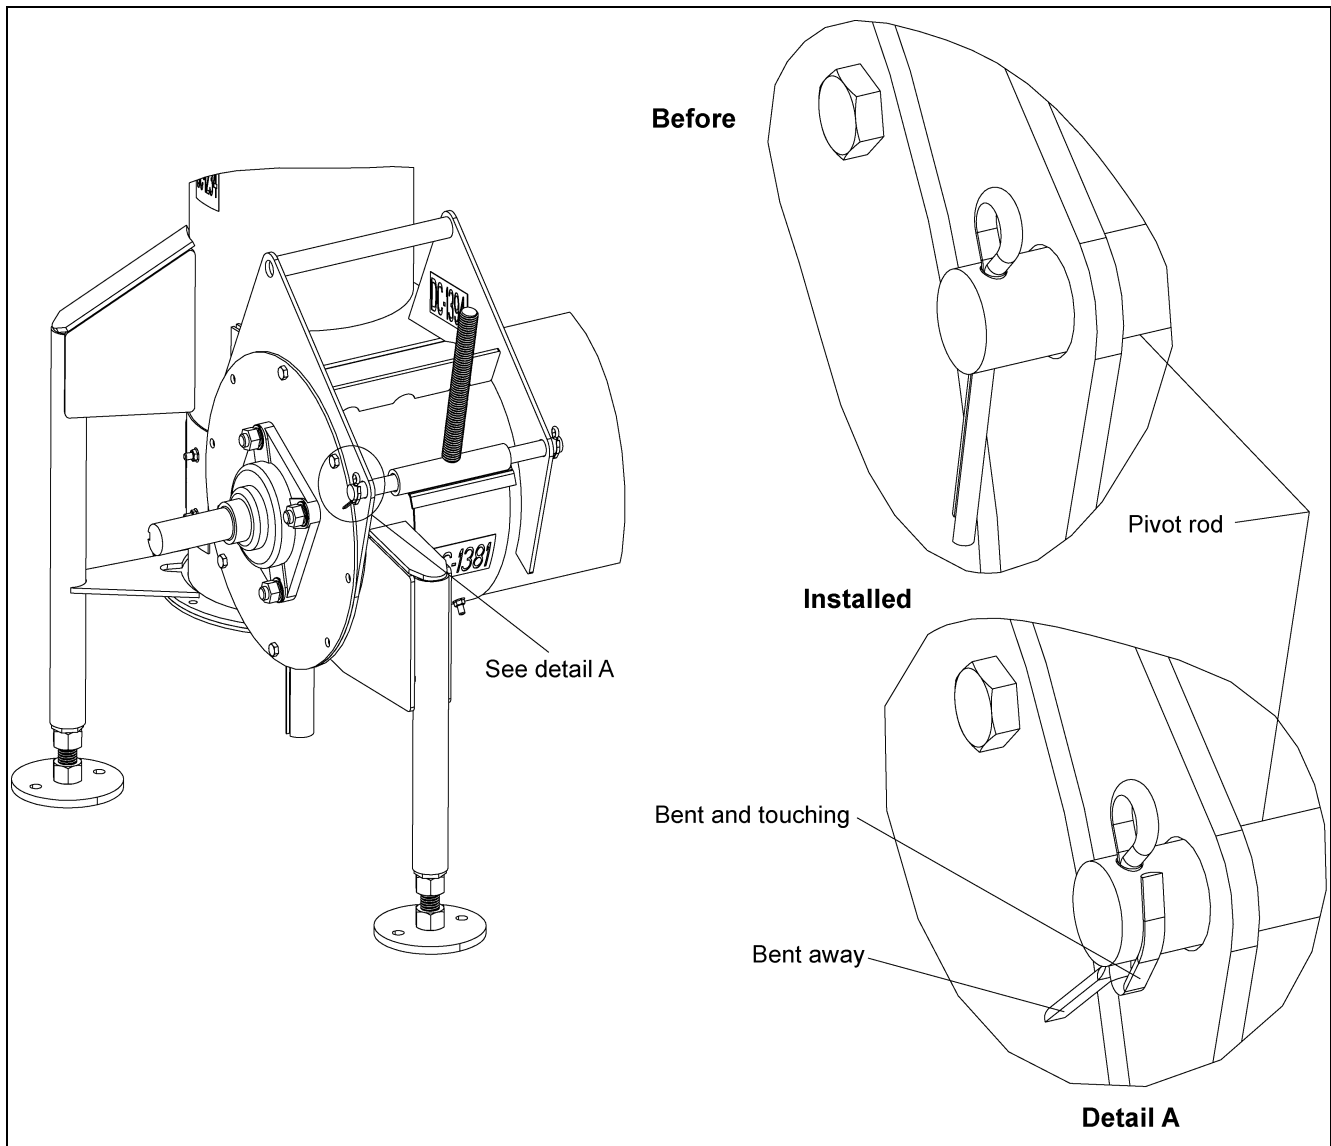

Figure 3G
C. With the cotter pins in the *pivot rod*, bend one tab of the cotter pin back so that it touches the *pivot rod* and bend the other tab of the cotter pin away from the first tab. (See Figure 3G.)